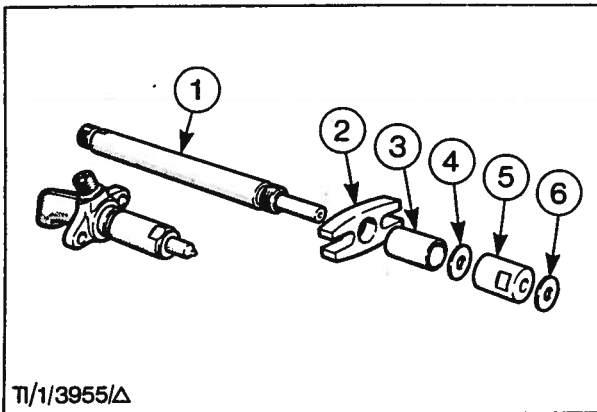

Fig. 7 - Tester Components
3. Select the 25 mm (1,0 in) long x 20 mm (13/16 in) diameter adaptor, and the 38 mm (1,5 in) long spacer. Select a suitable copper sealing washer for the stem assembly, and for the adaptor. Assemble the components as shown in Fig. 7 and check: